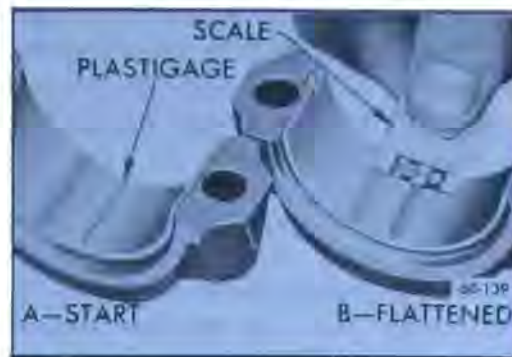

Figure 60-317—Checking Bearing Clearance with Plastigage
2. Place a piece of Plastigage lengthwise along the bottom center of the lower bearing shell (Figure 60-317, View A), then install cap with shell and tighten bolt nuts to 45 lb. ft. torque.
5. Using the scale printed on the Plastigage envelope, measure the flattened Plastigage at its widest point. The number within the graduation which most closely corresponds to the width of Plastigage indicates the bearing clearance in thousandths of an inch. See Figure 60-317, View B.